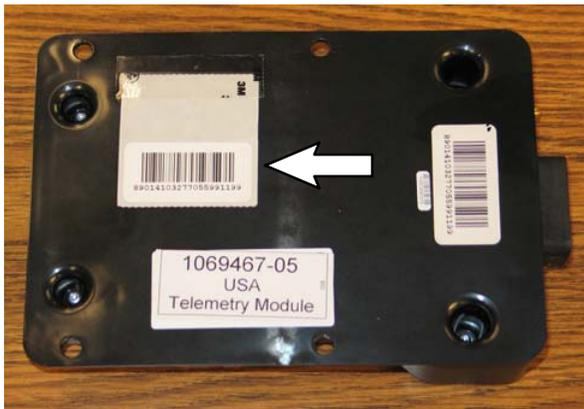

FIG. 3
7. Remove the additional SIM label from the back of the control box (1) and set label aside in a safe place. The number on the SIM label will be needed for activating the machine. (Fig. 3)